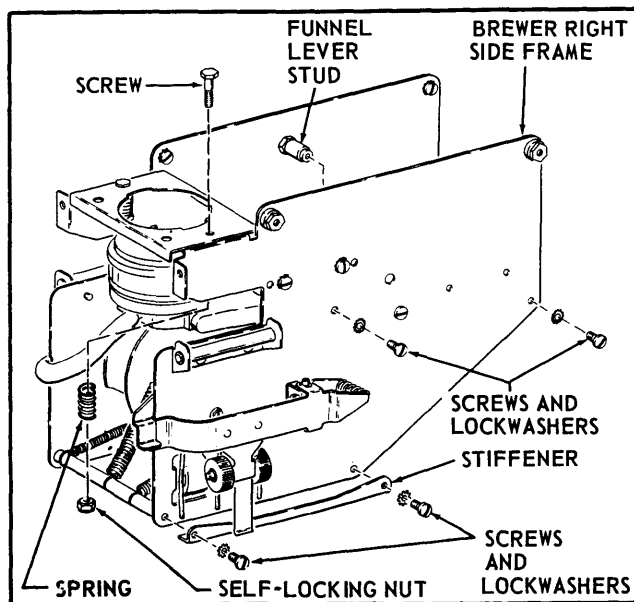

Figure 5.
- F. Remove the three #10-32 x 1/4" Bind Hd. Machine Screws and Lockwashers which attach the Brewer Right Side Frame Assembly at the bottom. See Figure 5. Some Brewer Assemblies may also have a Stiffener which is attached by two of the Screws.